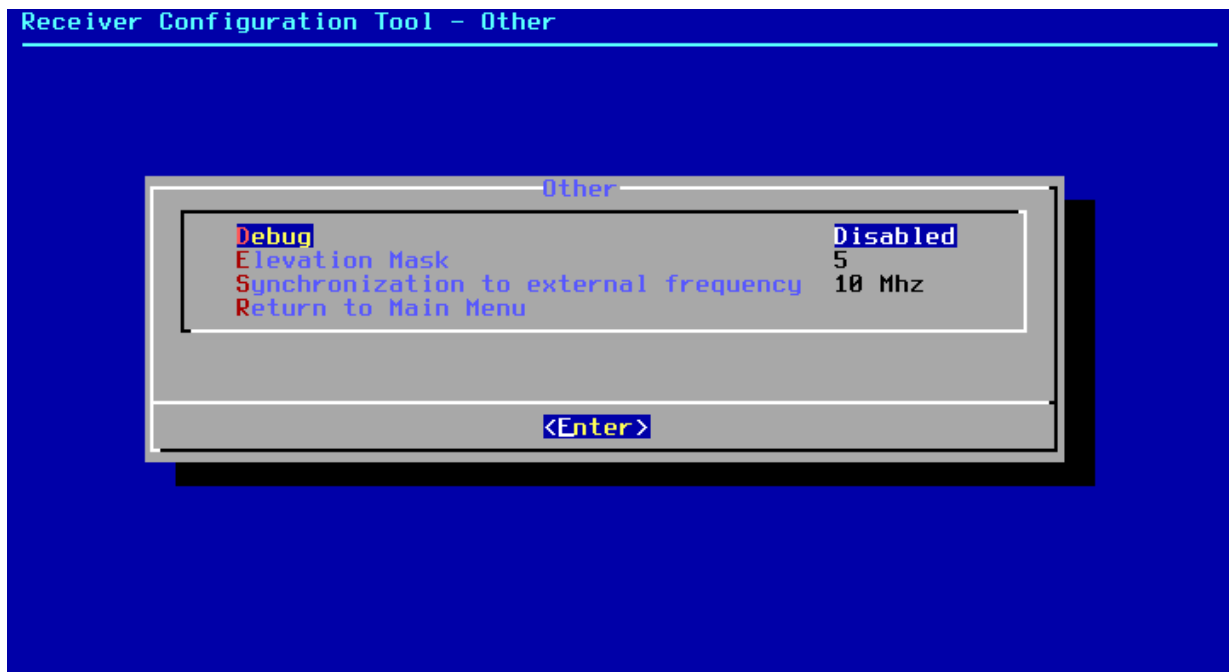

Figure 30: Other options menu.
3. select Other options (fig. 30), and enter parameters:
4. select Synchronization to external frequency (fig. 30),